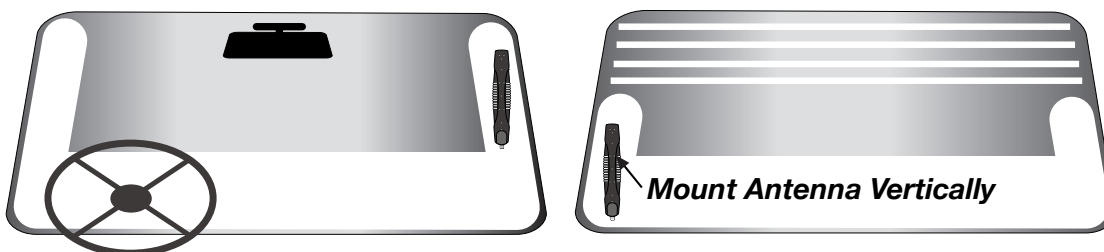

Figure 6-2
- A) Straight Style – Vertical installation only, see fig. 6-2.